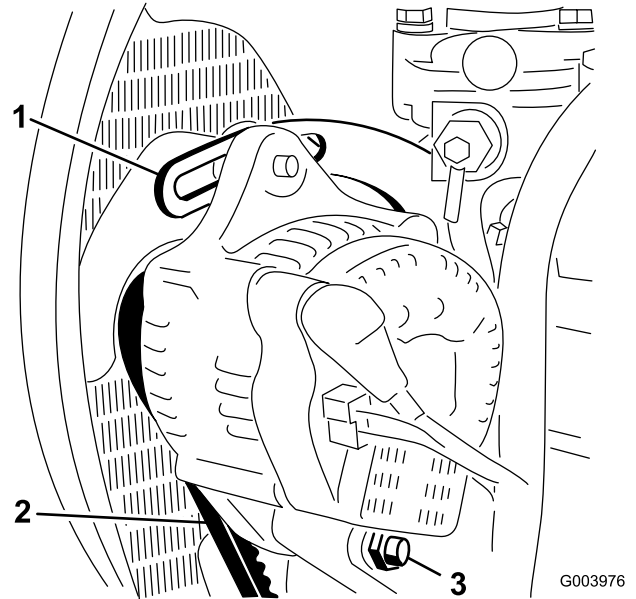

Figure 77
2. Check the tension of the alternator belt by depressing it (Figure 77) midway between the alternator and the crankshaft pulleys with 22 lb (10 kg) of force.
3. Loosen the bolt securing the brace to the engine (Figure 77), the bolt securing the alternator to the brace and the pivot bolt.